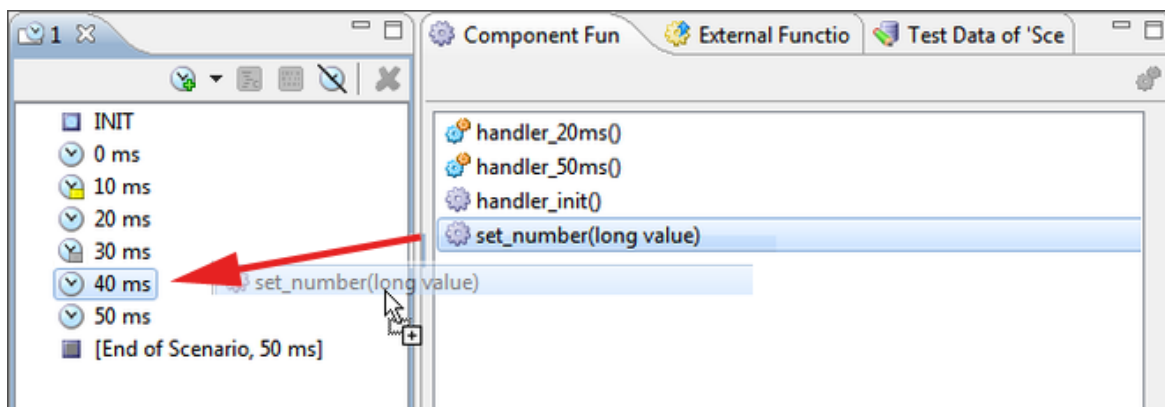

Figure 6.278: Adding Function Calls
- Drag and drop the functions from the component functions onto the desired time step (see figure 6.278).